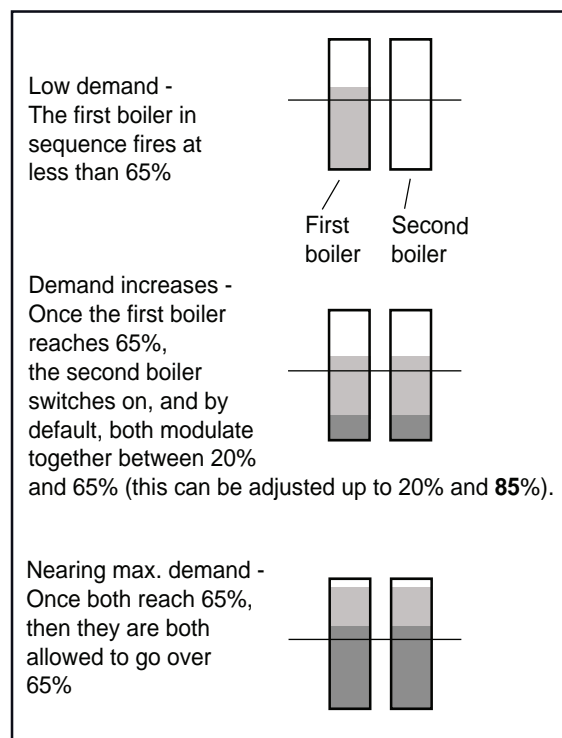

Figure 41. Lead Lag Operation, 2 boilers.
- If the heating demand increases so that the firing rate of that first boiler rises to your boiler configurations Base Load Value (see **Figure 41** or **Figure 43**), the next boiler in the sequence will start up and begin firing at 20 to 35% fan speed (depending on your configuration). After this, the entire configuration of boilers will modulate up or down together, in reaction to the changes in demand.